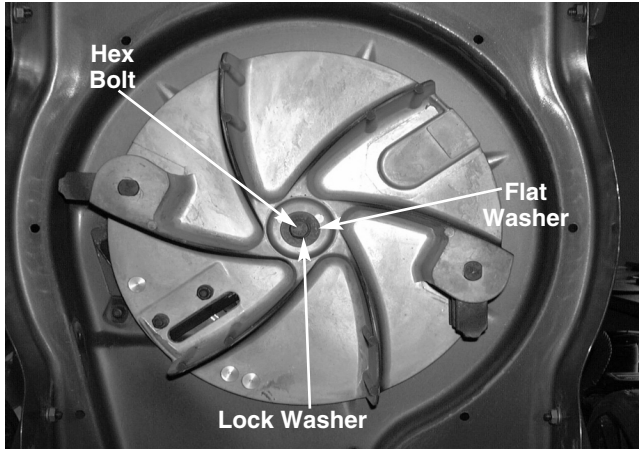

FIGURE 5.
8. Remove the hex bolt and lock washer securing the impeller assembly to the crankshaft using a 9/16" socket. See figure 5 and 6.